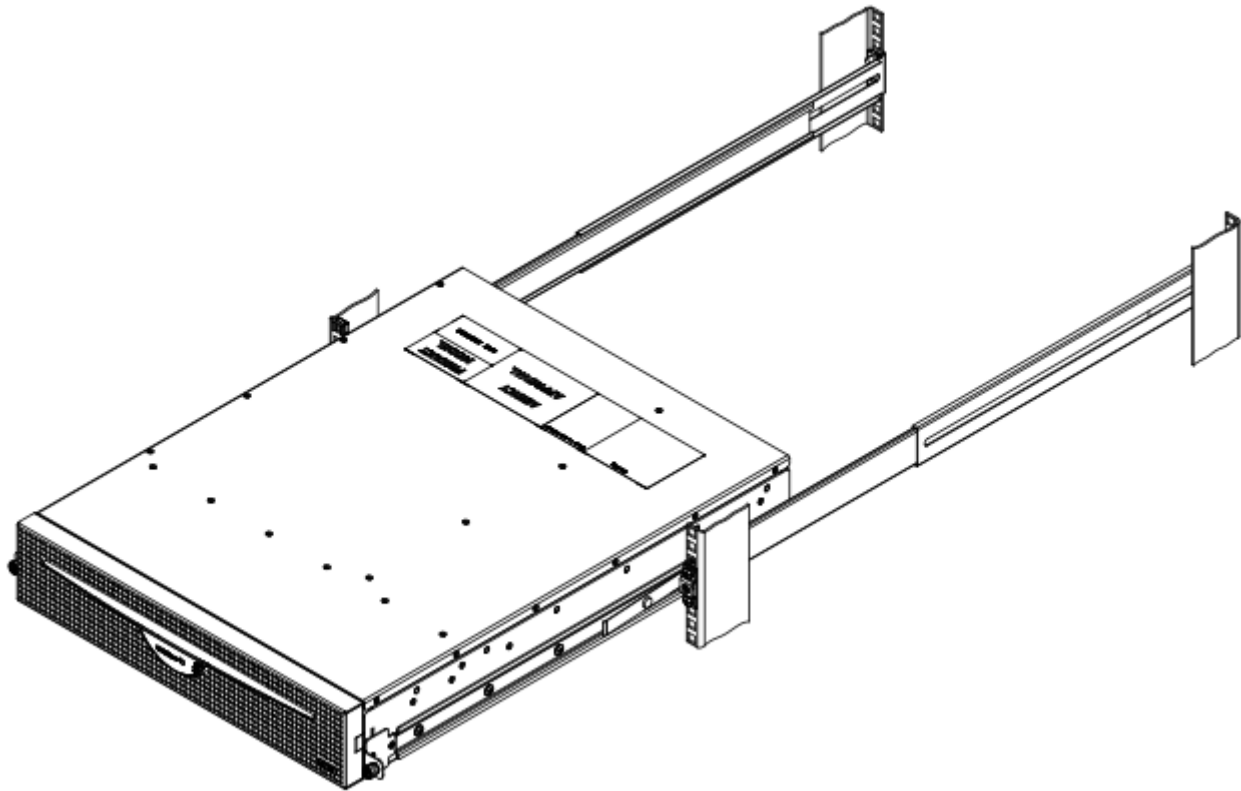

Figure 3-10 Cougar Sliding Into the Fixed Rails
Step 2: Gently guide the sliding rails into the fixed rails as shown in Figure 3-10.